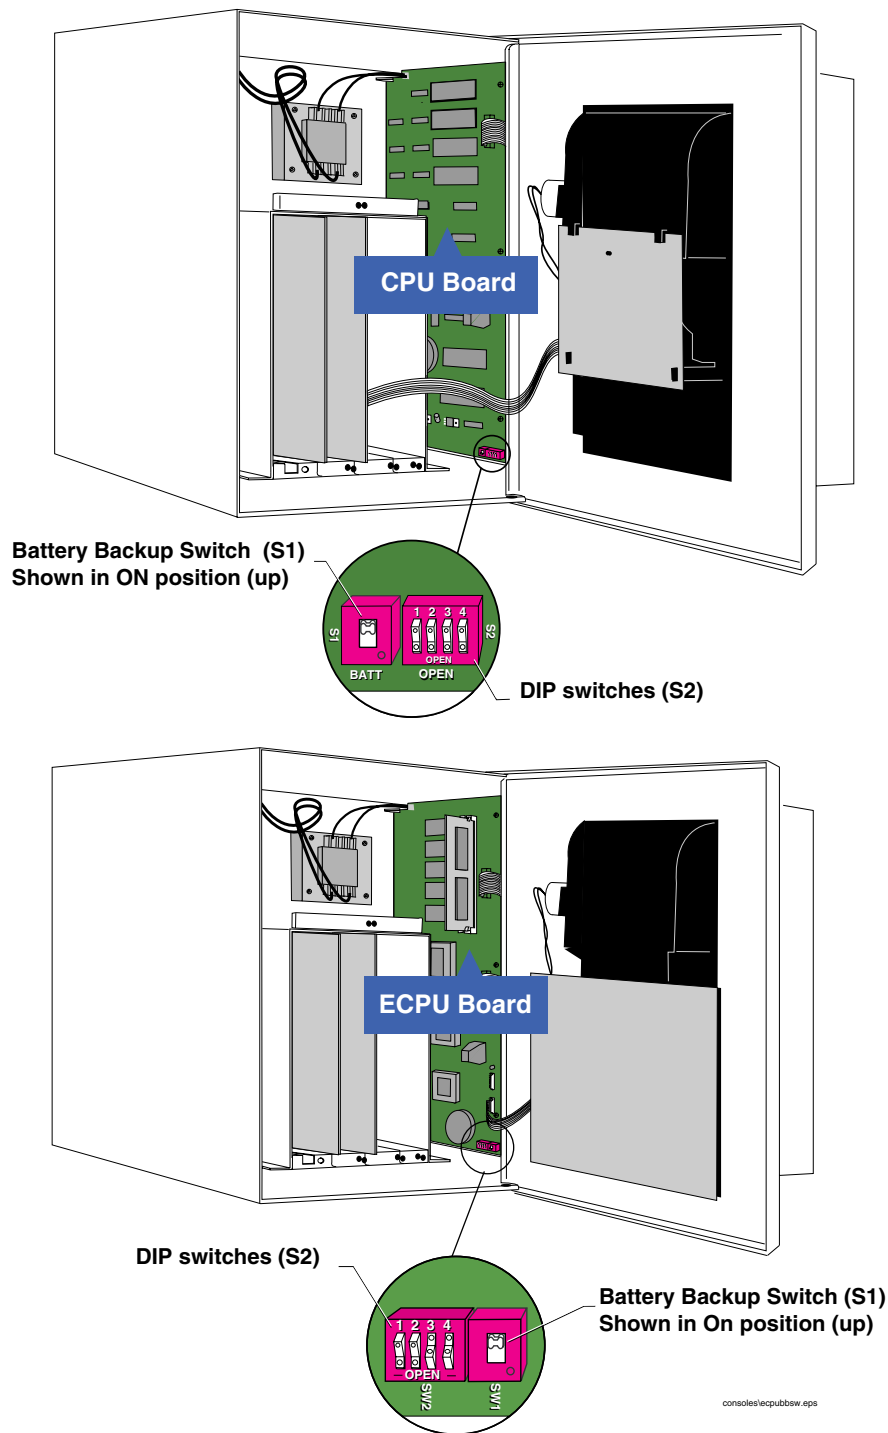

Figure 2. CPU/ECPU board battery backup switch locations
2. To retain current programming, be sure that the CPU (for TLS-350) or ECPU (for TLS-350R) board battery switch is set to "ON" (see Figure 2). To avoid electrical shock or damage to components, if accessing the battery switch, avoid touching any circuit components with your hand or any conductive tool or jewelry.